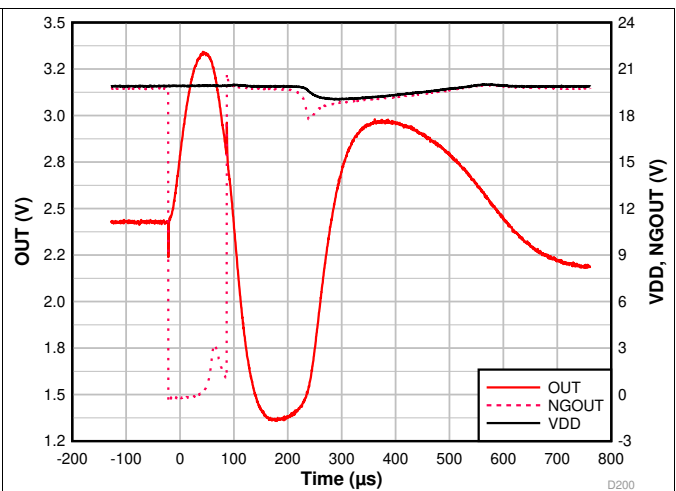

Figure 18. Neutral-Ground Pulse on V_{OUT} With $2\text{-}\Omega$ N-G Fault. No Load or Fault Currents.
- The N-G pulse on V_{OUT} when there is a N-G fault must look like Figure 18. The N-G pulse measured on V_{OUT} should first increase above 2.5 V and then decrease below 2.5 V. The second, downward pulse should be greater in amplitude and energy than the initial positive pulse. This rule should be true regardless of line polarity. N-G pulse polarity is determined by the connection of NG_OUT and GND pins to the 200-turn coil and by the polarity of the line wires through the transformer core.